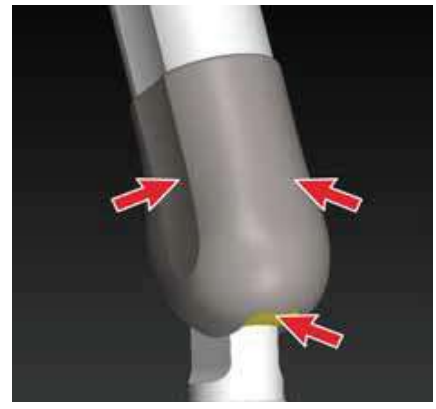

Figure 122
- Now take another half of end cap and insert such that the holes provided in both the caps are aligned properly and insert the other side of rubber part into the slot provided in the second half of the end cap as shown in Figure 122 .